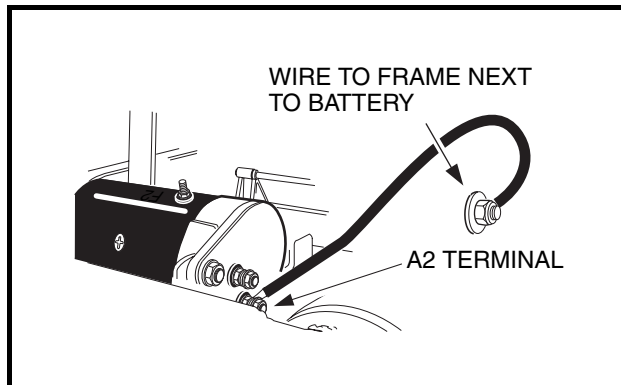

Figure 11-8 Test Starter/Generator Ground Strap
- 3.1. Set the multimeter to 200 ohms. Place the red (+) probe on the (A2) terminal of the starter/generator and place the black (–) probe on the vehicle frame (**Figure 11-8, Page 11-14**). The reading should be continuity. If the reading is incorrect, clean and tighten wire connections. If the connections are good and the reading is incorrect, repair or replace the wire.